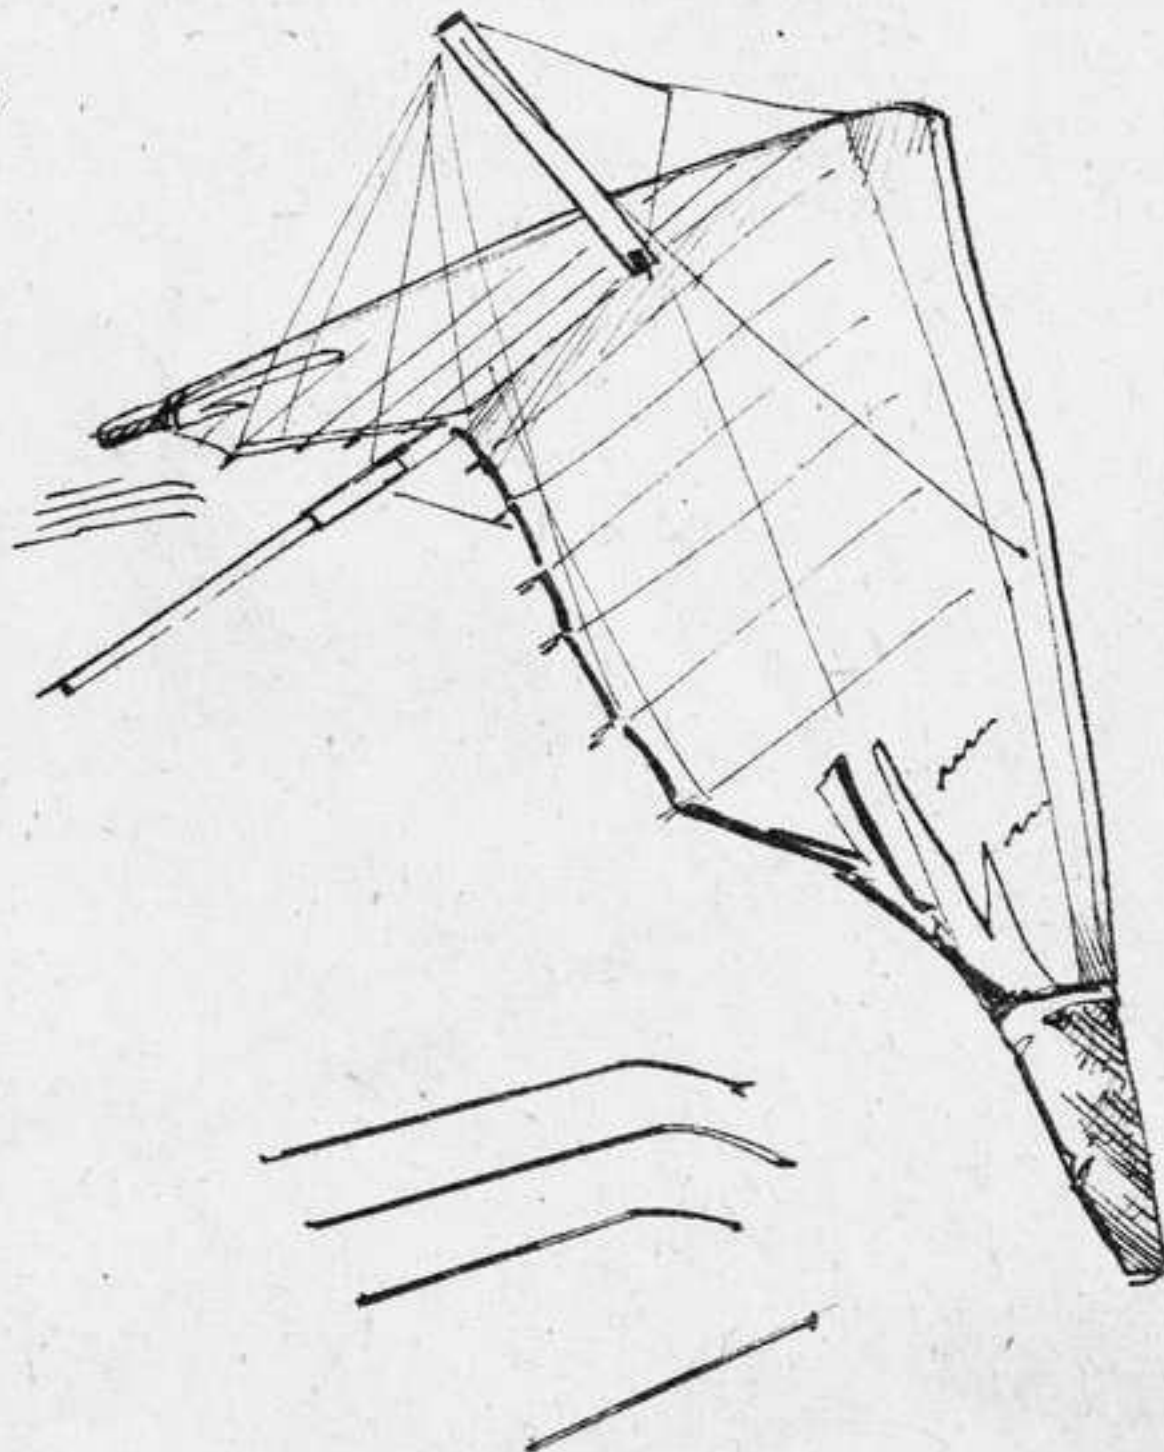

Fig.10
4.1.2. Remove the battens from the outboard section of the sail and put the outboard wing cones on (fig.10).